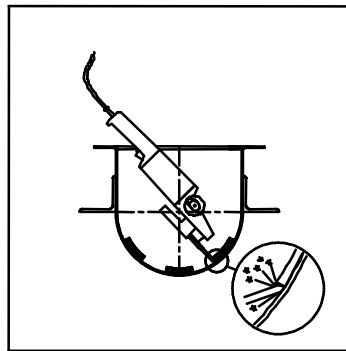

*Figure 5.2h - Taking off the Cover, Removing the Spiral*
3. Remove the spiral from the trough or lift it to increase accessibility (fig 5.2h).